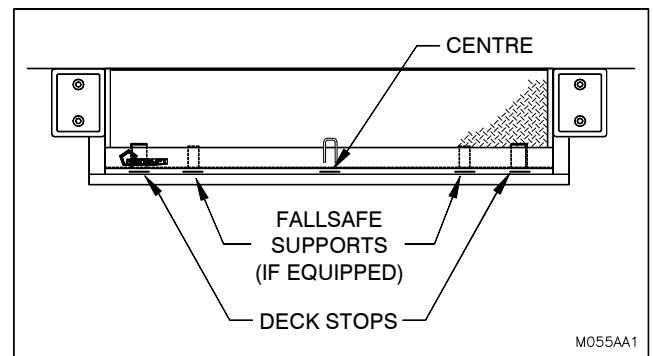

Figure 5: Shim Front Frame
- Lower the dock leveler to the stored position and shim the front frame under the two deck stops and in the center of the dock leveler until the deck plate is flush with the top of the front curb angle and the floor. For units equipped with Mechanical Fallsafe, also shim beneath the fallsafe supports. (See Figure 5: Shim Front Frame on page 6 for shim placement.)